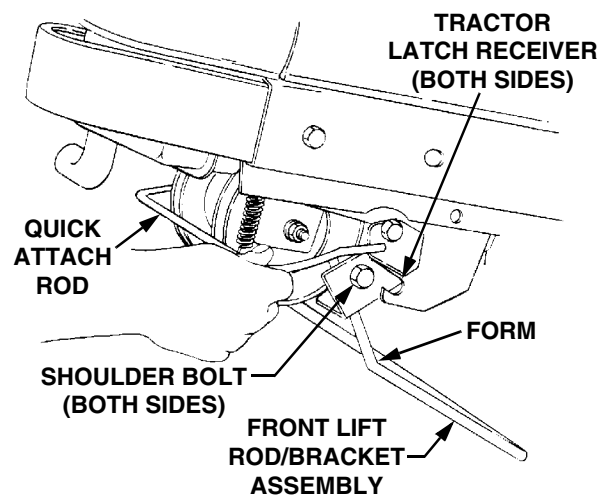
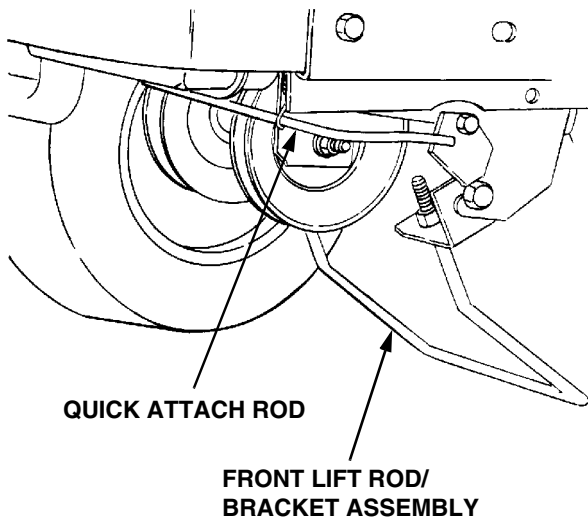

Figure 50
Figure 51
4. Refer to Figure 50 to ensure the correct orientation of the front lift rod/bracket assembly [form (bend) in sides of rod point downward]. From the front of the tractor, push downward and hold the tractor quick-attach rod. Slide the shoulder bolts on each side of the front lift rod/bracket assembly fully into the left and right tractor latch receivers. Release the tractor quick-attach rod to capture the front lift rod/bracket assembly in the tractor latch receivers (Refer to Figure 51).